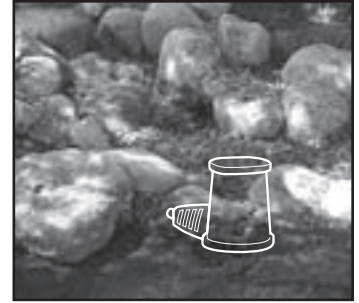

Fig. 22 Set larger boulders (6" – 18") around the perimeter of the basin.
- Set larger boulders (6" – 18") around the perimeter of the basin to support the edges of the basin. The plumbing from the BIOFALLS® filter should be brought over a slightly lowered edge of the liner and to the location of the Pondless® Waterfall Vault. Boulders and gravel can be used to hide the plumbing. (See fig. 22)